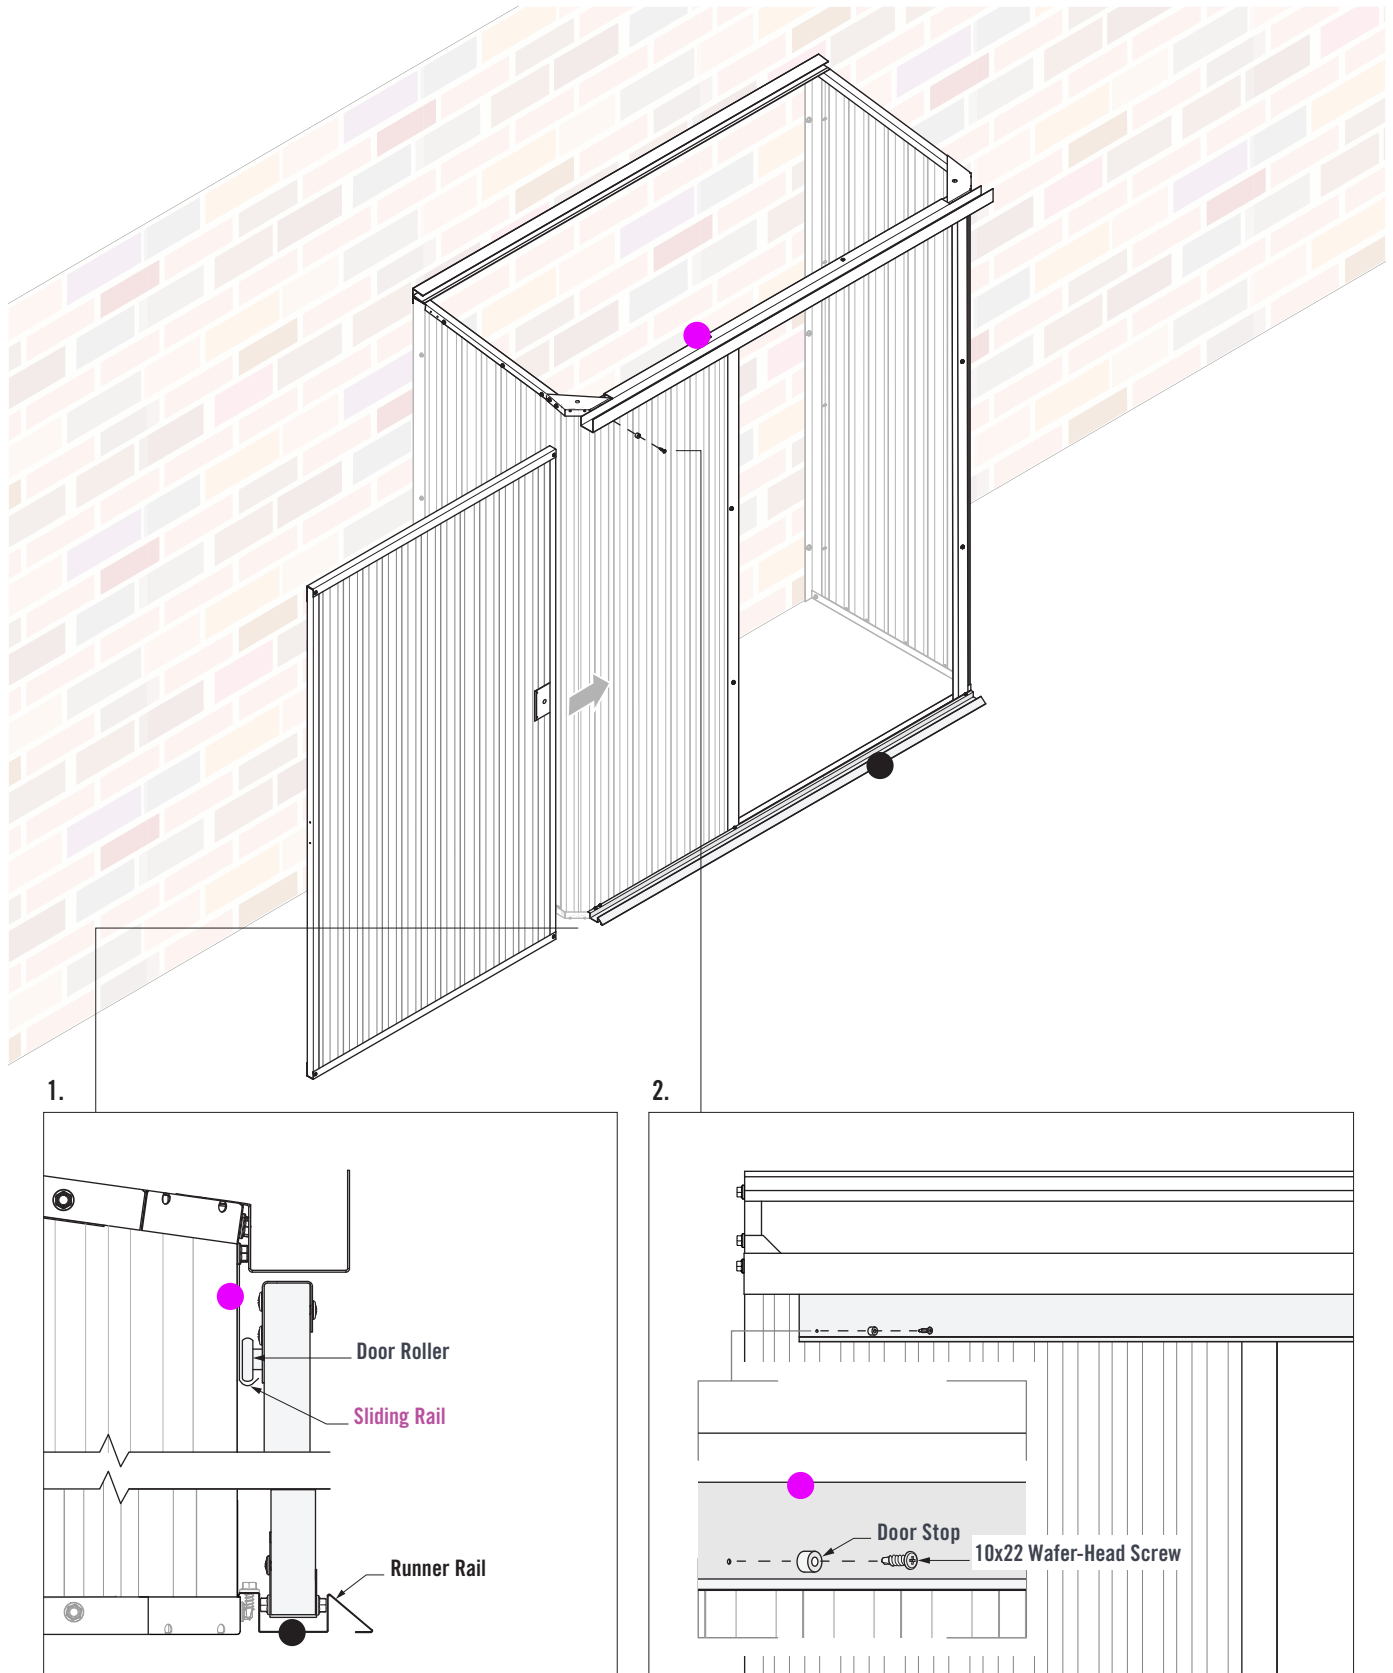

FIGURE 7.4
1. Slide the Door into the **Sliding Rail** and Runner Rail. The Door Roller fits into the **Sliding Rail** at the top. The bottom of the Door fits into the Runner Rail at the bottom (Figure 7.4).
2. Fasten a 10x22 Wafer-Head screw through the Door Stop and into the pilot hole in the **Sliding Rail** (Figure 7.4).